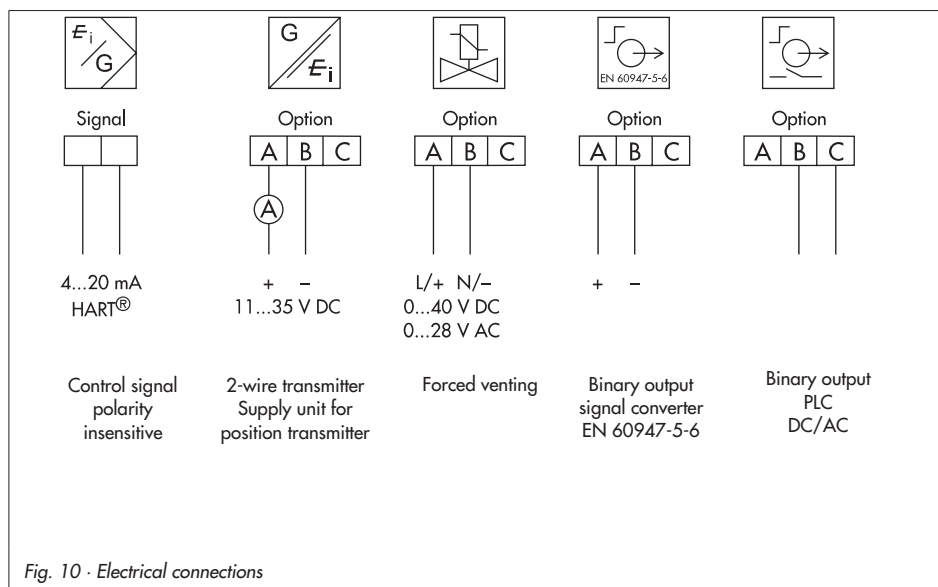

Fig. 10 · Electrical connections
Refer to Fig. 10 or the label on the terminal strip for terminal assignment.
- ▶ Connect the voltage supply for the version with forced venting as shown in Fig. 10.